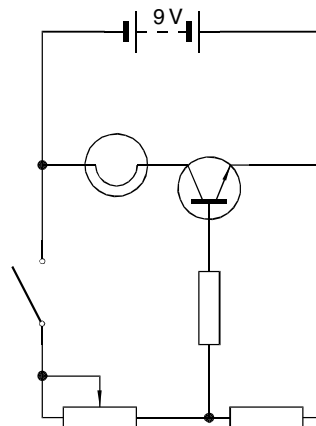

Fig. 9.23 Exercise 3
3. Construct the electronics circuit given in Fig. 9.23 from the file **electronics.dwg** using the **DesignCenter**.